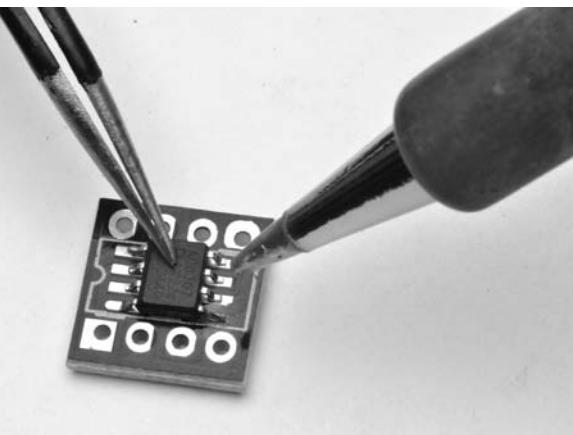

FIGURE 14-13 Apply the part and heat the pad you soldered.
2. Hold the SOIC part on the carrier and heat the pin you soldered in Step 1. A pair of tweezers is great for putting the part in place. A toothpick is a useful "tool" to hold the part in place (Figure 14-13).